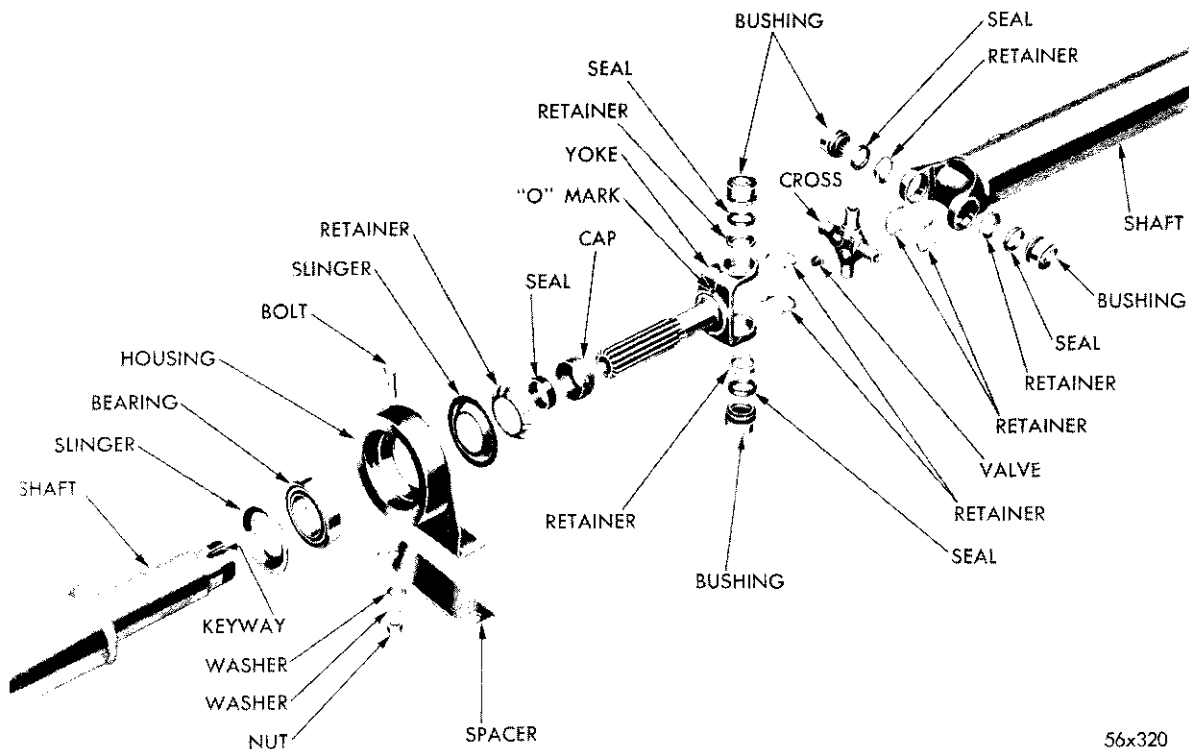

Fig. 7—Propeller Shaft and Center Bearing Assembly (Disassembled View)
5. SERVICING CROSS AND YOKE TYPE PROPELLER SHAFT (Fig. 7) (Imperial Models)
Make certain that all of roller bearings are correctly placed in roller bushing. Also, be sure balance arrows are in alignment (Fig. 7).
6. SERVICING PROPELLER SHAFT CENTER BEARING (Figure 7)
moderate or heavy. Check the indexing of universal joints and propeller shaft assembly, as shown in Figure 7. The letter "O" on front face of spline should be lined up with key slot at rear of front shaft.